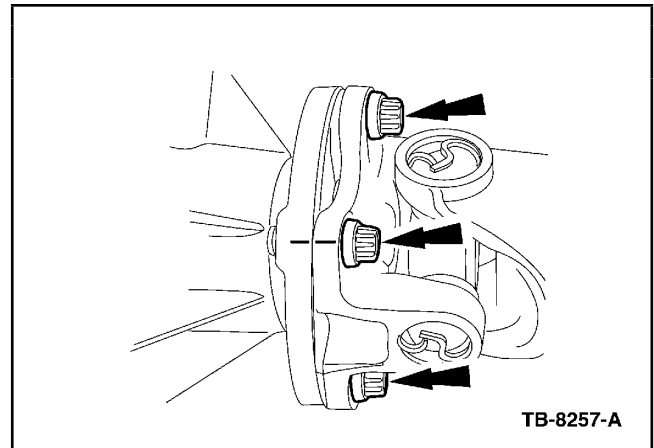

Figure 2 - Article 05-16-4
4. Remove the transfer case rear output flange bolts (Figure 2).